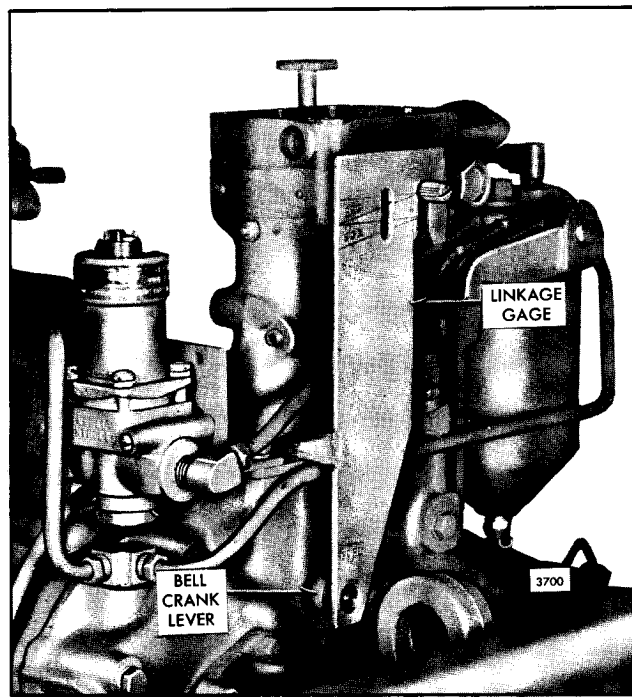

Fig. 2 - Linkage Gage Placed on Governor
5. Place the linkage gage J 21304 over the operating lever shaft and through the bolt hole in the bell crank lever, (Fig. 2). The tang on the side of the gage should just touch the top of the governor drive housing cover when the gage is properly positioned.